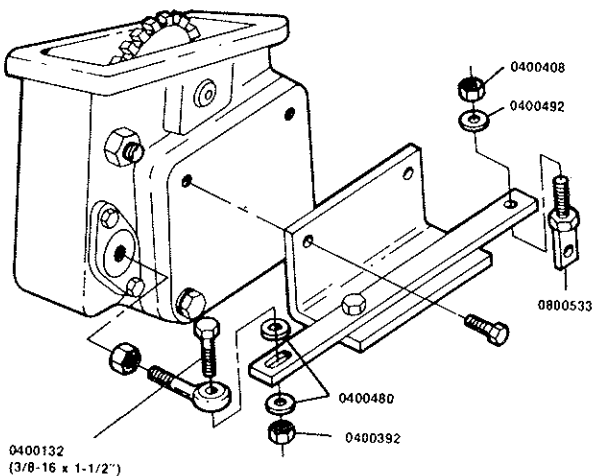

Figure 5.2
8. Mount assembled "Mechanical Advantage" system to P.T.O. Use two capscrews from P.T.O. inspection plate to mount angle bracket. Assemble the rest of "Mechanical Advantage" system according to fig. 5.2. Use balance of hardware from "Manual P.T.O. Control Kit" #0900267.